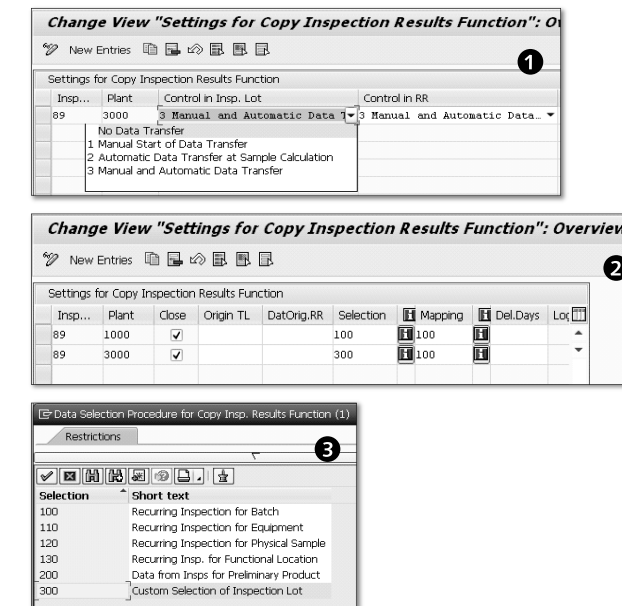

Figure 3.19 Configuration Settings for Copy Inspection Results
To set up necessary configuration settings for copying inspection results, follow the menu path SPRO • SAP REFERENCE IMG • QUALITY MANAGEMENT • QUALITY INSPECTION • MAKE SETTINGS FOR COPY OF INSPECTION RESULTS. You need to review Figure 3.19 ① and ② together because these are part of the same screen of copy inspection results settings. This example shows configuration settings of inspection type 89 (manual inspection) for plant 3000, which you see in Figure 3.19.
Table 3.3 explains the fields' settings of Figure 3.19.
CONTROL IN INSP. LOT (INSPECTION LOT)	Option to control the mode of data transfer or data copy. The available options are as follows: <ul style="list-style-type: none"> ▶ No data transfer at the inspection lot–creation level ▶ Automatic data transfer on sample calculation ▶ Manual and automatic data transfer In the case of manual data transfer, the system prompts you to enter the inspection lot number of the data that you want to copy or transfer. See Figure 3.19 ❶. <p>Note: The source and target characteristics (MICs) must both be available and consistent to ensure successful data transfer.</p>
DATA ORIGIN: TL (TASK LIST)	The option to assign the task list's origin (or source) for data transfer. See Figure 3.19 ❷. The available options are as follows: <ul style="list-style-type: none"> ▶ Quality certificate ▶ Previous inspection lot ▶ Batch values ▶ Previous inspection point ▶ Copied from the subsystem using QM IDI ▶ From mobile data recording ▶ Quality certificate transmission
While you can choose the relevant configuration settings that best meet your business needs, this example shows the exact settings that you see in Figure 3.19 ❶ and ❷.